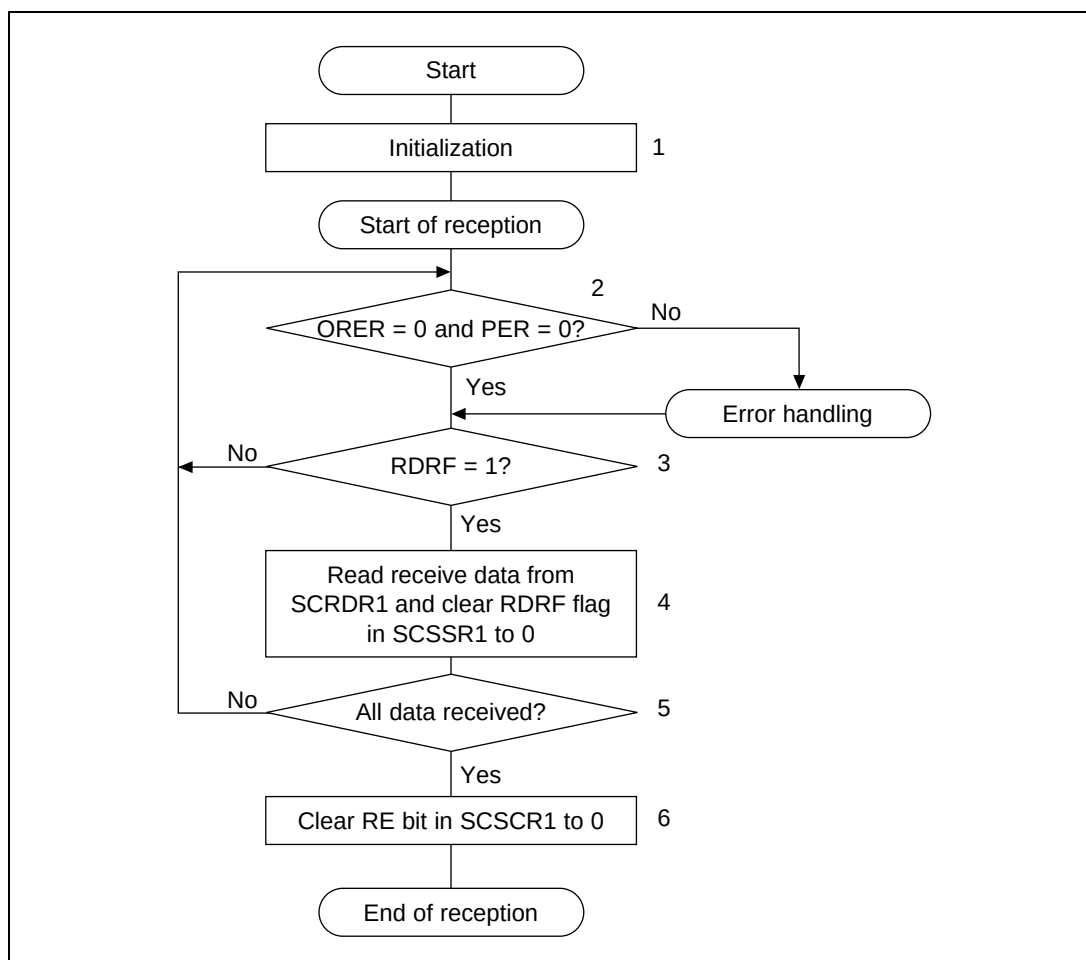

**Figure 17.9 Sample Reception Processing Flowchart**
**Serial Data Reception:** Data reception in smart card mode uses the same processing procedure as for the normal SCI. Figure 17.9 shows a sample reception processing flowchart.